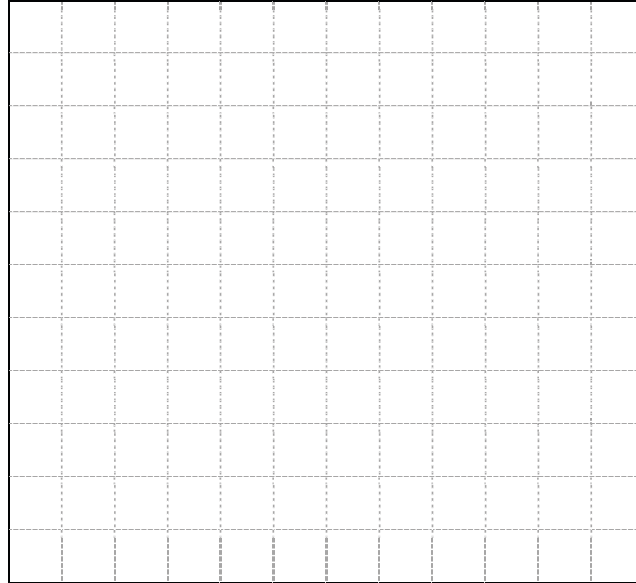

Figure 1-14. Linear and S-shape acceleration patterns.
20. Plot the curves showing the linear and S-shape acceleration patterns in Figure 1-14. Place the Time values along the X-axis, and the Frequency values along the Y-axis.